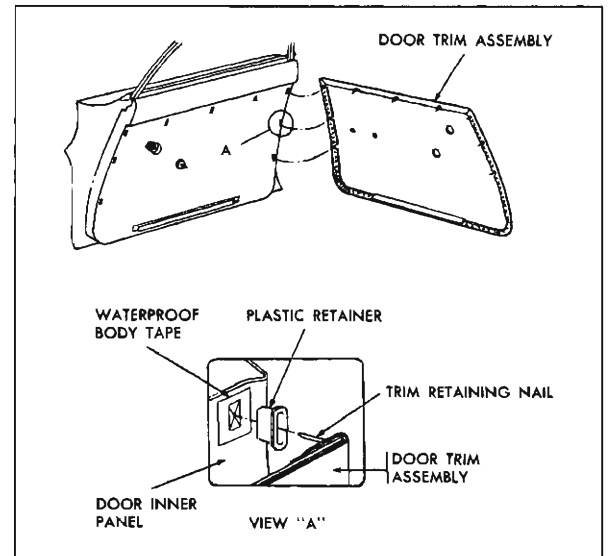

Fig. 12-3 Door Trim Installation
4. Starting at top of trim assembly, carefully insert tool J-6335, or a suitable flat-bladed tool, between door trim assembly and door inner panel at retaining nail locations and disengage nails from retainers (Fig. 12-3).
6. If plastic retainers are loose and will not remain engaged in door inner panel, install a  $\frac{1}{2}$ " x  $\frac{3}{4}$ " piece of cloth-backed waterproof body tape over retaining hole in door inner panel. Make two (2) slits in tape to form an "X" pattern. Check retainer for snug fit. If retainer is still loose, repeat above operation by installing a second piece of tape over existing repair. This procedure may also be used to repair waterleaks which develop around perimeter of retainer.